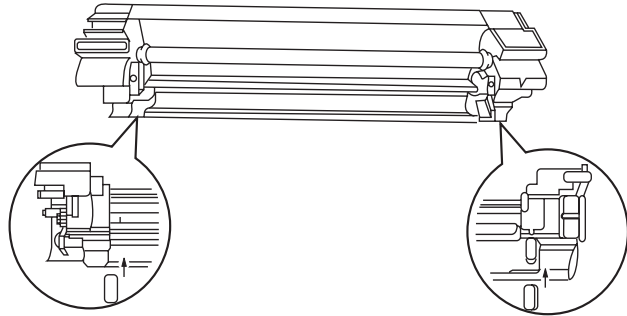

Figure 4-611
- 2) Attach the side seal as indicated in Figure 4-611.